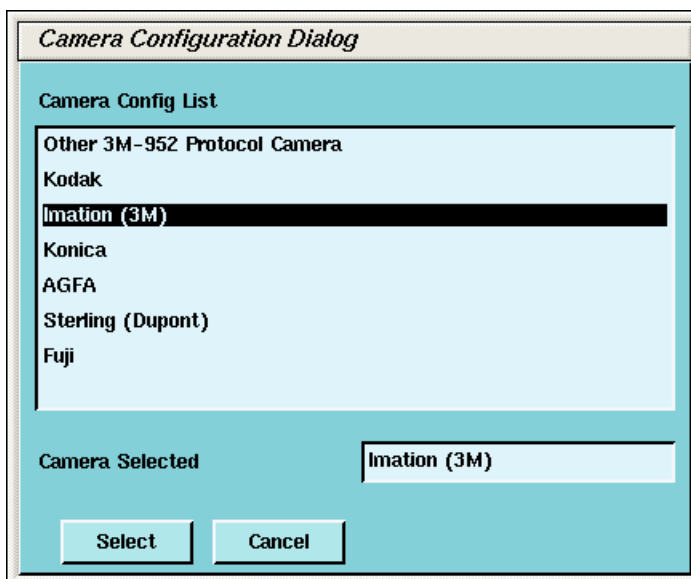

Figure 13-11 Camera Model Dialog (with DASM)
- 5.) To add a new laser camera, click DASM in the *Type of Laser Camera* dialog box. This displays a list of available camera models. Select the appropriate model from the list and click SELECT (see Figure 13-11). Now you must configure it.